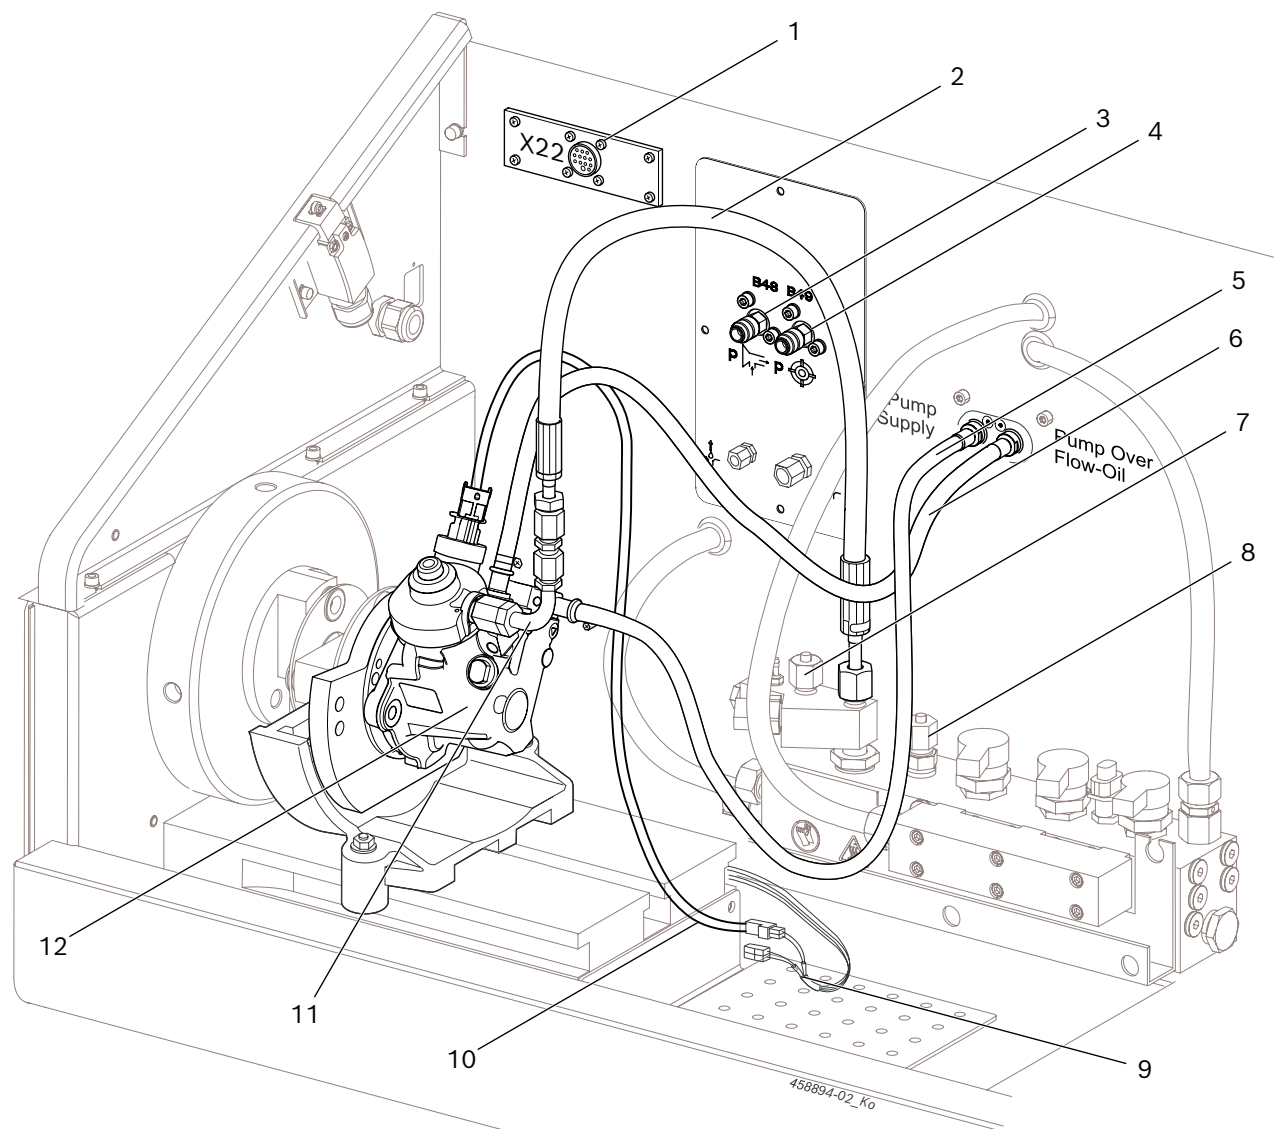

Fig. 2: CP4.1 connection
1. Connect hose lines for test oil supply (Fig. 2, item 5) and test oil return (Fig. 2, item 6) to the intended connections of the CP4.
2. Connect the high pressure hose line 1 680 712 324 (Fig. 2, item 2) to the high pressure input of the high pressure rail and via the test pressure line 1 680 750 123 (Fig. 2, item 11) to the high pressure connection of the CP4 (tightening torque = 25 Nm – 30 Nm).
3. Seal connection for high pressure hose line to the distribution rail CRI 846H or CRI/CRIN 848H with a blind plug on the high pressure rail (Fig. 2, item 7, 8).
For the CP4.2, the blind plug must be removed (Fig. 2, Item 7) and an additional high pressure hose line must be connected to the high pressure rail and the CP4.
4. Connect connecting line 1 684 463 946 (Fig. 2, Item 9) to X24 and then connect with CP4 by means of a pump-specific adapter line (Fig. 2, Item 10; special accessories).
The adapter 1 681 032 115 included in the parts set 1 687 016 128 is used for the supply pump pressure measurement for the CP4 with geared pumps. Mount adapter to the CP4 prior to the testing, and connect the hose line from the adapter to the B49 (Fig. 2, item 4).
The hose lines included in the parts set 1 687 016 128 are used for the low pressure measurement. Connect pump-specific hose lines to injection the pump and the B48 (Fig. 2, item 3).
- Is the connection on the high pressure hose rail (to the distribution rail CRI 846H) sealed with a blind plug (Fig. 2, item 8)?